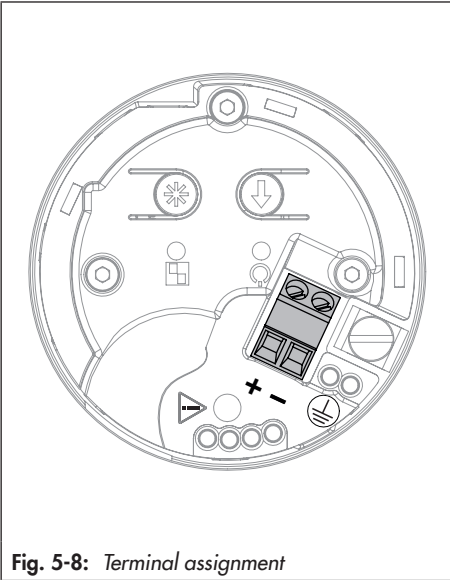

Fig. 5-8: Terminal assignment
2. Connect the signal wires to the screw terminals as shown in Fig. 5-8.